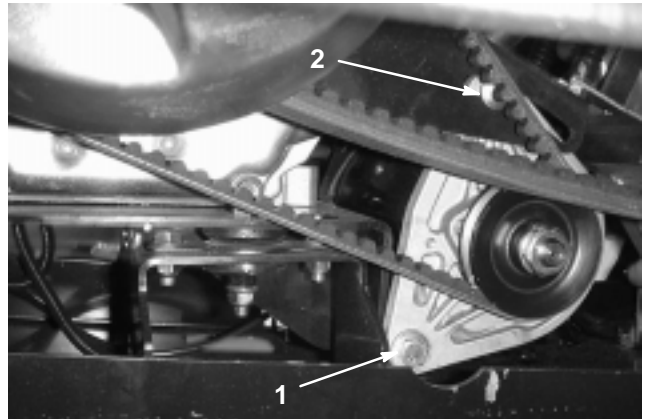

Figure 34
2. Loosen the starter generator pivot bolt (Fig. 34).
3. Wedge a pry bar between the engine mount and starter. Loosen the nut on the adjusting carriage bolt (Fig. 34).
5. Tighten the carriage bolt nut and remove the pry bar. Tighten the starter generator pivot bolt (Fig. 34).